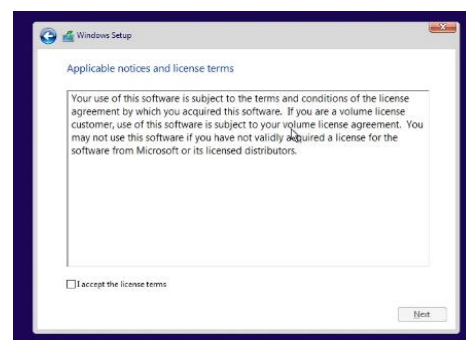

FIGURE 82: TESTOUT CORP. (2020, JANUARY 14). TESTOUT PC PRO (SECTION 10.3.4). RETRIEVED FROM [HTTP://WWW.TESTOUT.COM](http://www.testout.com)
11.3.4. (See Fig. 82) On the next screen, you will be asked to accept the License Terms for your usage of Windows 10. Read the License terms, check the box that indicates “I accept the license terms”, and click the Next button.